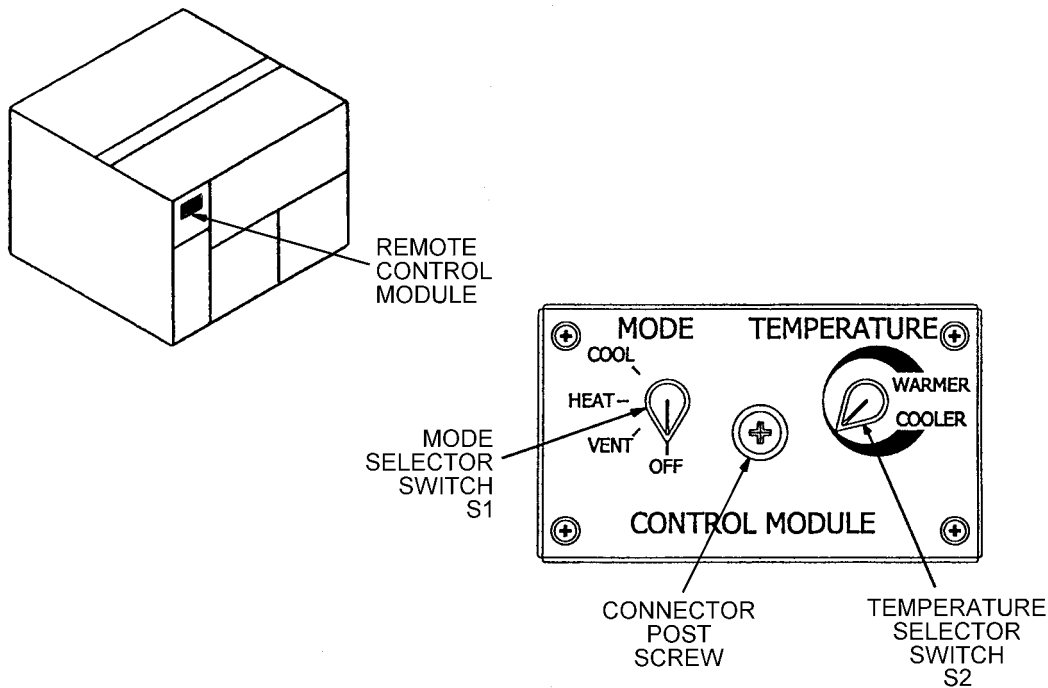

Figure 1. Control Module - Front Panel
1. Loosen connector post screw counterclockwise until remote control module is freed from unit. See Figure 1.